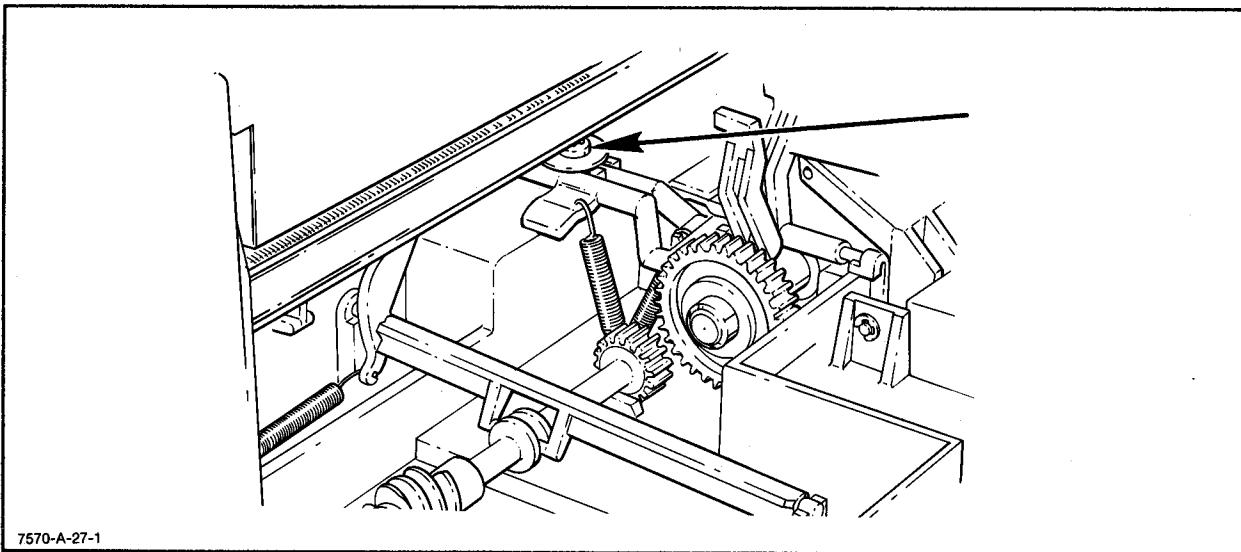

Figure 6-24. Sensor Arm Retaining Screw.
- e. Remove the self-tapping retaining screw. See Figure 6-24. Sensor Arm Retaining Screw.
- g. Remove the paper sensor arms. See Figures 6-24 and 6-25.